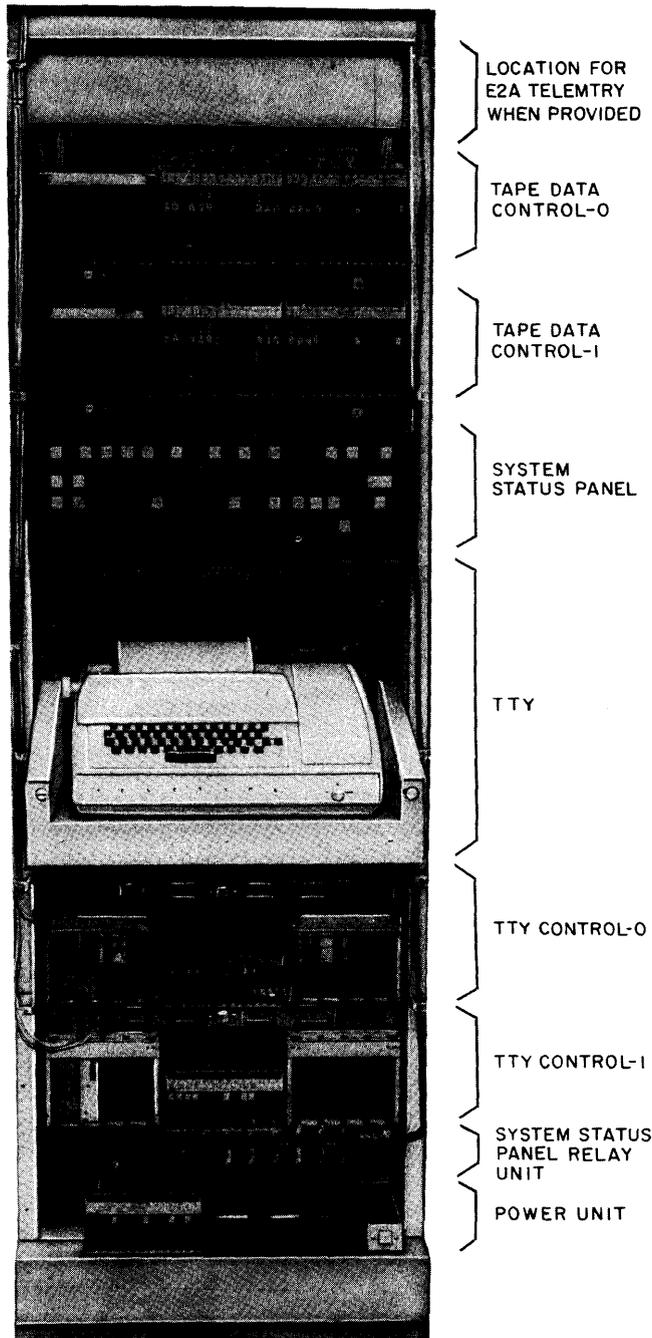

Fig. 3—Teletypewriter (Shown on Maintenance Frame)
**3.06** The TTY (Fig. 3) is the primary means of man-machine communication with the system. The TTY prints test results, trouble records, and diagnostic results. The TTY is also used for manually requesting tests, diagnostics, removal of